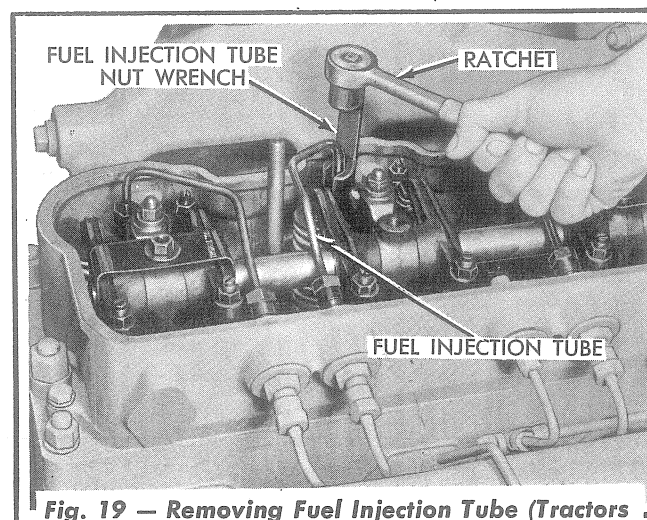

Fig. 19 — Removing Fuel Injection Tube (Tractors
3. Disconnect and remove the fuel return manifolds. Using a fuel injection tube nut wrench, similar to the one shown in Fig. 19, loosen the injection tube nuts from the top of the fuel injection nozzles. Loosen the fuel injection tube nuts from the fuel injection line connectors, free the injection nozzle end of the tubes and remove the tubes from the engine. **IMPORTANT:** Cover all fuel openings to prevent the entrance of dirt.